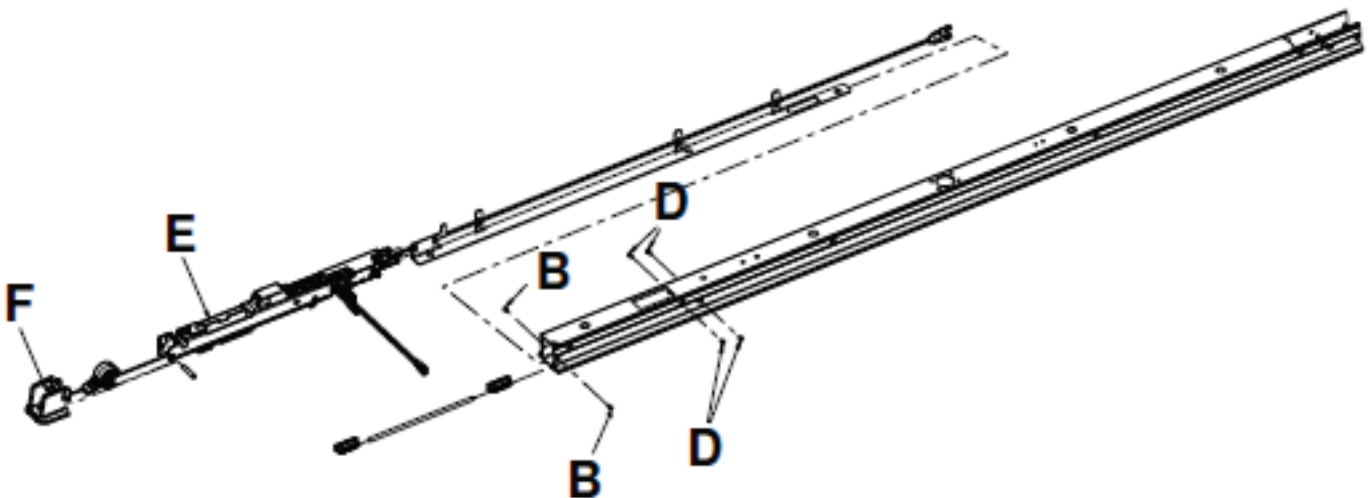

Figure 40 – Remove the anchor plunger assembly
5. Using a 1/8" hex wrench, remove one of the two flat head cap screws (B) that secure the release lever housing (F) to the anchor (Figure 40).
8. Using a 1/8" hex wrench, remove two of the four flat head cap screws (D) from one side of the anchor plunger assembly, mid (Figure 40). Save the screws.
9. Using the second 1/8" hex wrench, insert the wrench into the anchor pivot pin to remove the other two of the four flat head cap screws (D) (Figure 40). Save the screws.
11. Remove the anchor plunger assembly, mid (E) from the anchor (Figure 40).